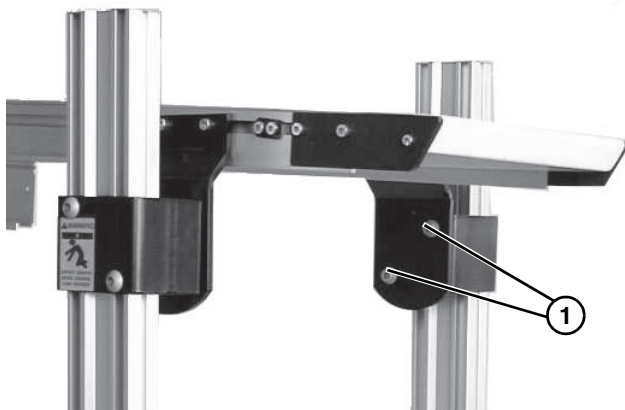

Figure 14
1. Loosen two flange socket head screws (**Figure 14, item 1**) on both sides of stand.
Failure to secure screws (**Figure 14, item 1**) may cause conveyor sections to drop down, causing severe injury.
TIGHTEN SCREWS (Figure 14, item 1) AFTER ADJUSTMENT.
3. Secure flange socket screws (**Figure 14, item 1**) to 24 ft-lb (18 Nm).